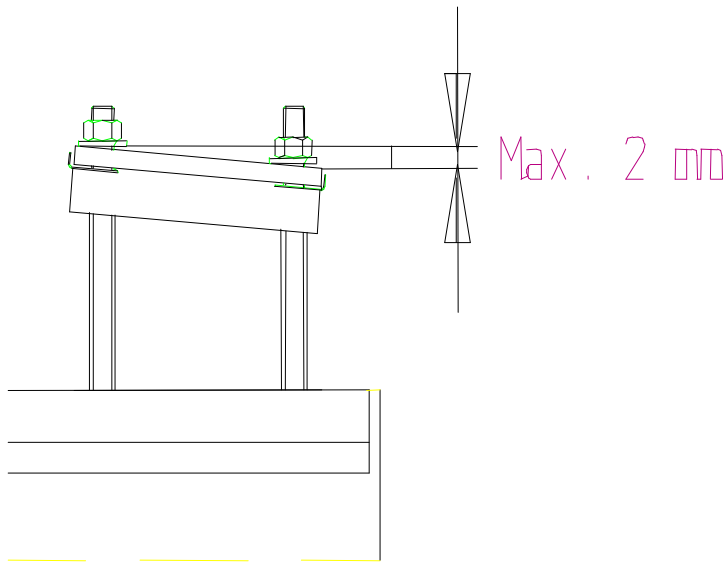

Fig. 6
- ◆ See that there is a gap of not more than 2 mm. See fig.6.